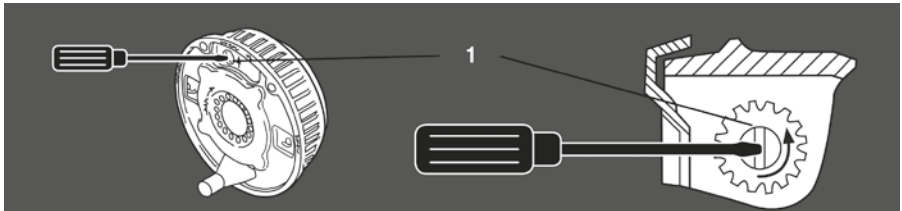

Figure 11 Adjusting the Starwheel
5. ALWAYS rotating the road wheel in the forward direction - NEVER backwards; adjust the starwheel with a suitable screwdriver, in the direction of the arrow embossed on the backplate until there is resistance in the wheel rotation. (Fig. 11).
6. Slacken off the starwheel adjuster until the road wheel turns freely in the FORWARD direction. (Fig. 11).